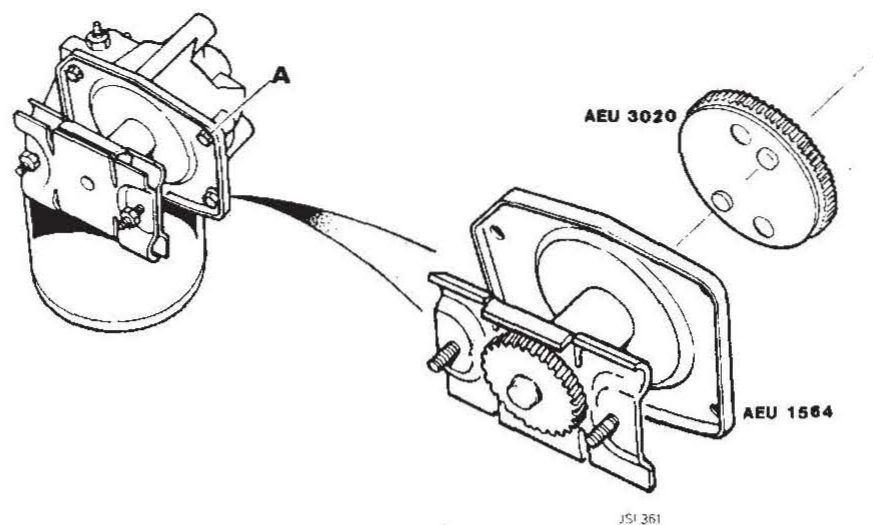

Fig. 7
10. Remove the four screws securing the wheelbox to the motor, A Fig. 7.
11. If the drive gear, AEU 3020 (Fig. 7) is to be renewed it should be done prior to the refitting of the wheelbox.
12. Refit or renew the wheelbox AEU 1564 (Fig. 7), securing with the four screws.